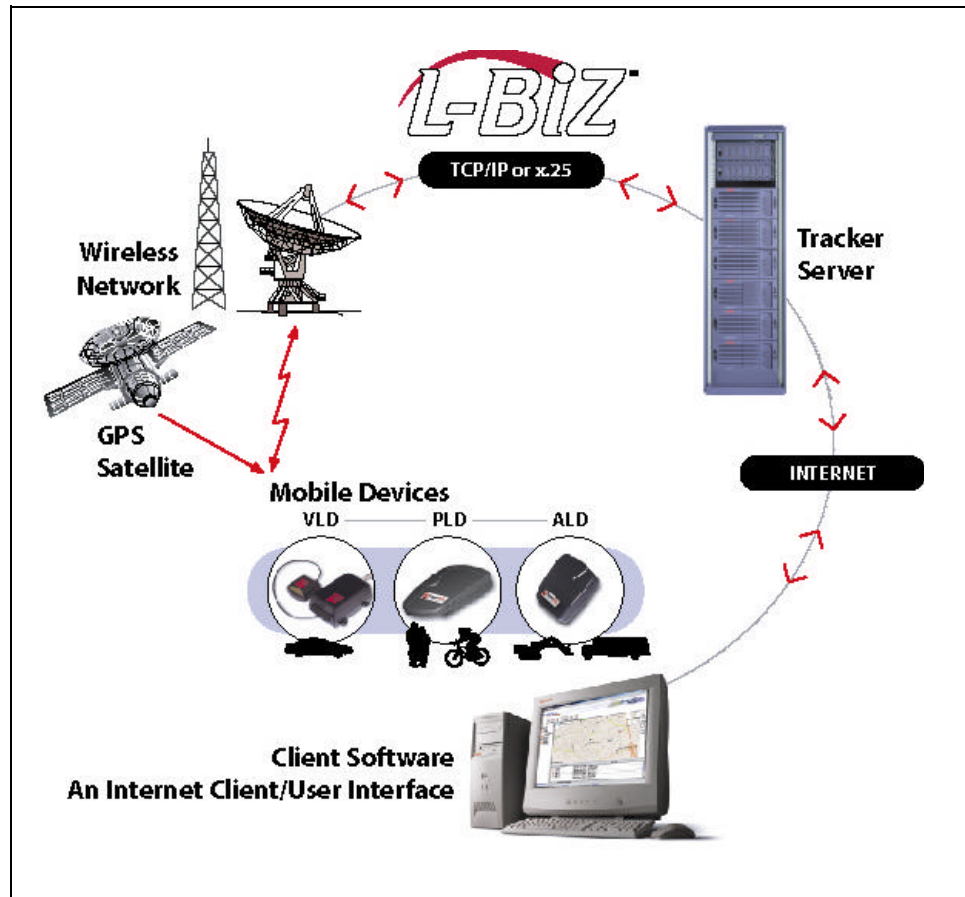

Figure 1-2 PowerLOC's L-Biz Architecture.
**PowerLOC Technologies Inc.** is an emerging leader in the design and development of wireless Internet-enabled tracking and location services architecture known as L-Biz™. Figure 1-2 shows the L-Biz architecture.